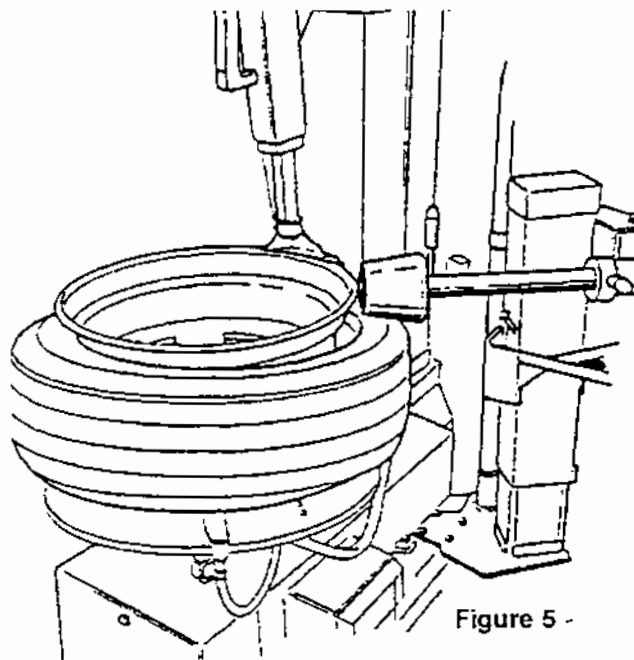

Figure 5 -
B. Position the roller as shown in Figure 5. During the mounting operation the roller pressure helps keeping the bead in the drop center. Move the roller to rest position.